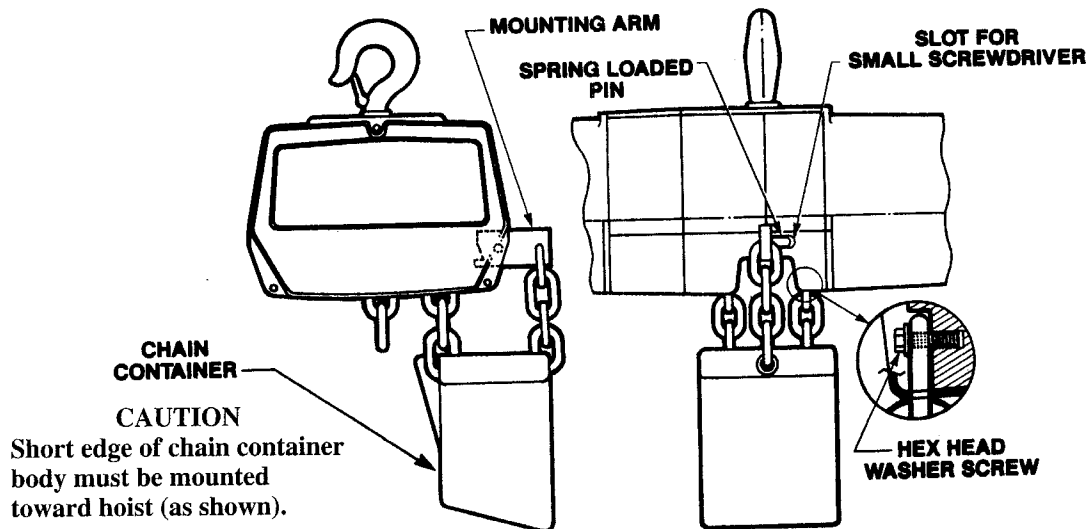

FIGURE 2-2. CHAIN CONTAINER INSTALLATION
- e. In areas where slack chain hanging from the hoist may create a hazard, use a chain container (see Figure 2-2).
- Slide the spring-loaded pin aside and slip the mounting arm into the slot until the pin fits through the hole in the plate (see Figure 2-2). Be sure pin passes completely through plate and into the opposite housing.